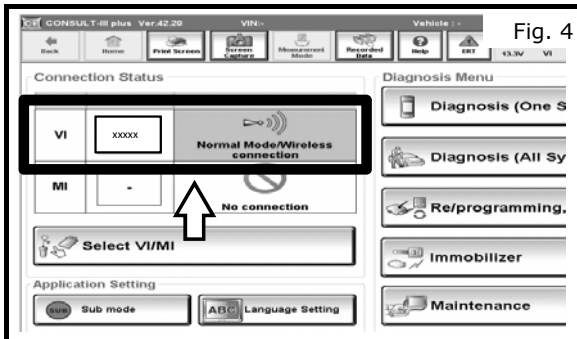

Fig. 4
- a) Start CONSULT III plus make sure VI is connected. VI serial number will appear in VI section and VI status will change to "Normal Mode" (green color) as shown in Fig. 4.